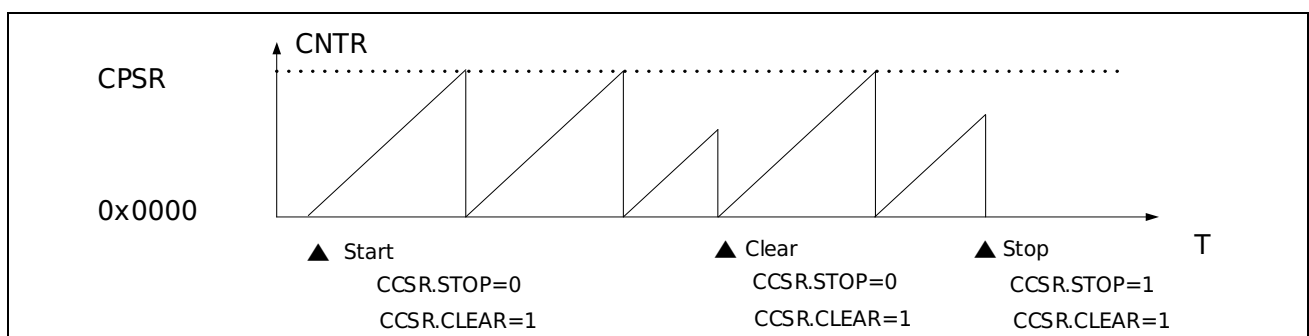

Figure 21-4 Timer4 Sawtooth Wave Mode Counting Action
1) The sawtooth wave counting operation and control flow are as Figure 21-4 shown.